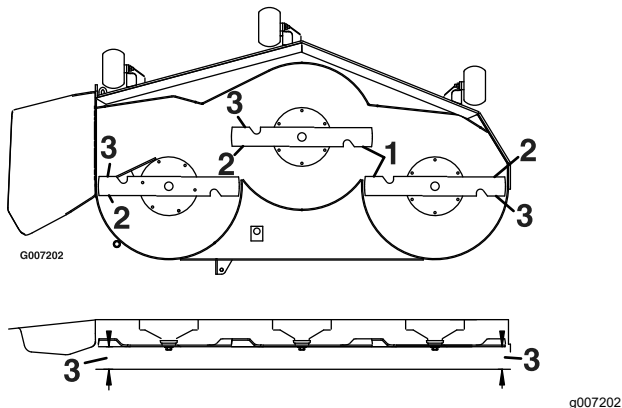

Figure 59
4. Measure between the outside cutting edges and the flat surface (Figure 59).